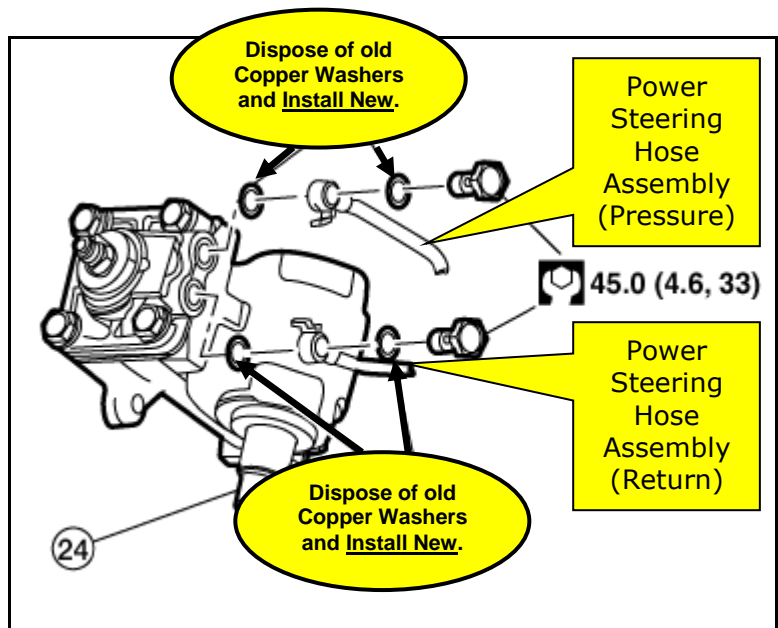

Figure 8
7. Install Power Steering Hose Assembly (Pressure & Return) connection eye bolts with four new copper sealing washers (Figure 8).